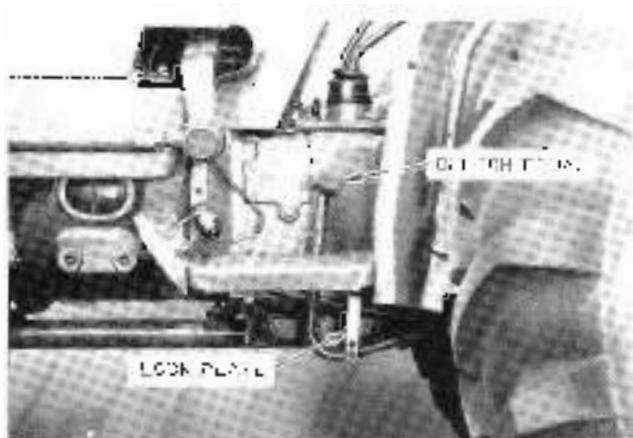

Figure 71 Setting the Lock Plate of Clutch Pedal
10. Set the lock plane after depressing the clutch pedal, continue to operate the clutch pedal from the flywheel. (Figure 71).
5. Drainage of the tank plate or clutch pedal by disconnecting the master cylinder line, Figure 71.